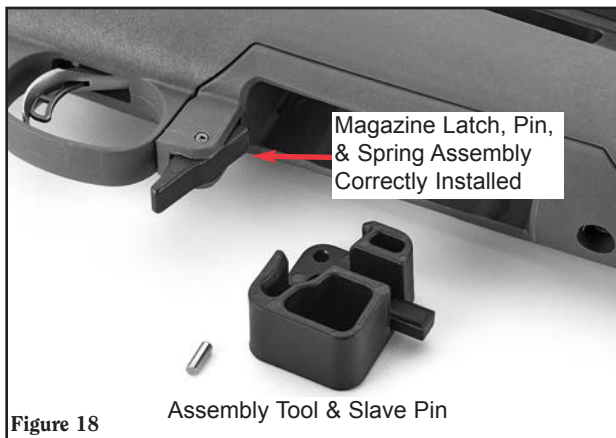

Figure 18
- h. The slave pin and assembly tool will drop free after the magazine latch pin has been installed. Keep the slave pin and assembly tool for future use. (See Figure 18.)